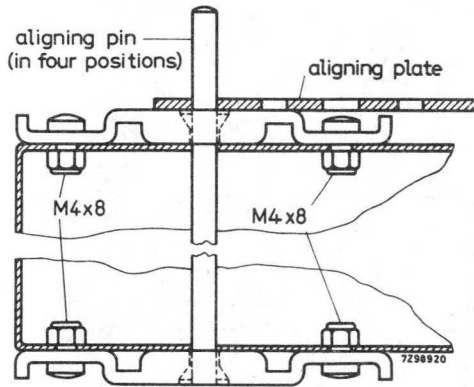

Fig.10. Aligning
6. With the chassis in normal horizontal position, insert the four aligning pins in the empty countersunk holes and place the aligning plate to fit over the aligning pins (see Fig.10).